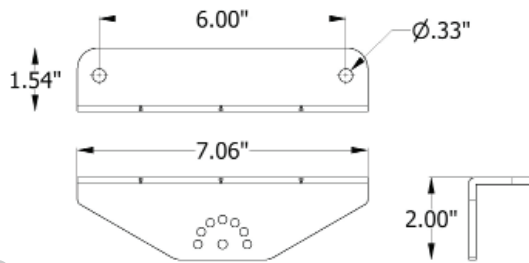

FIG. 10
- 2 FHZL Surface Mount dimensions (Fig. 10).